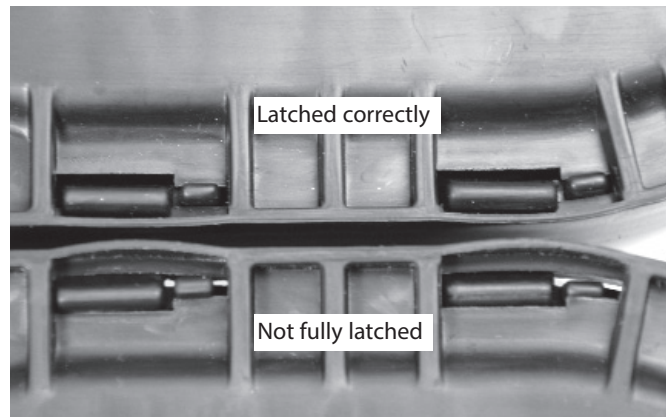

Figure 9
12. Examine the latches and compare them to Figure 9. If they are not latched, apply pressure at each latch point.